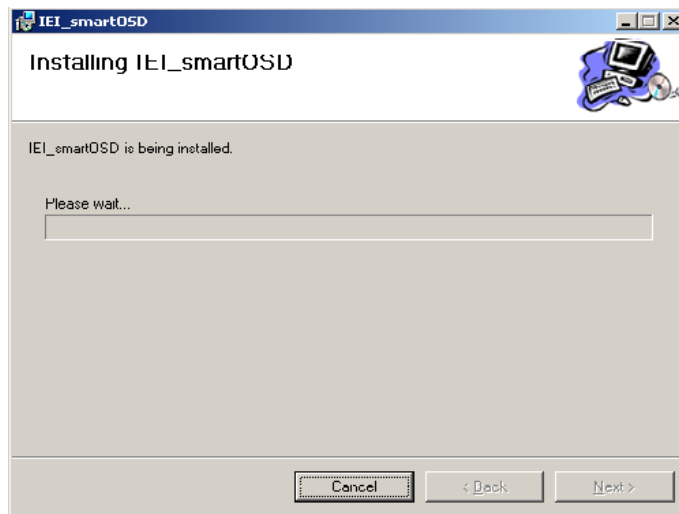

Figure 8-6: smartOSD Installation Progress
Step 10: The program starts to install and the progress bar shown in Figure 8-6 appears.